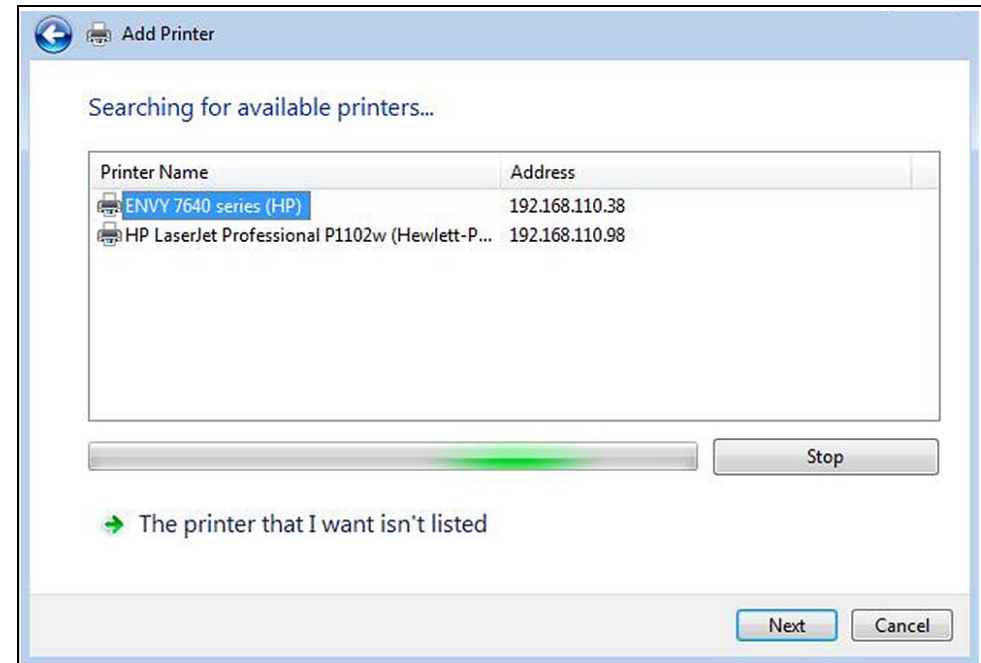

Figure 1-18
7. Follow the onscreen instructions to search, locate and install your printer. Windows automatically searches for available printers on the network (Figure 1-18).
9. Follow the onscreen instructions to search, locate and install your printer. Windows automatically searches for available printers on the network (Figure 1-18).